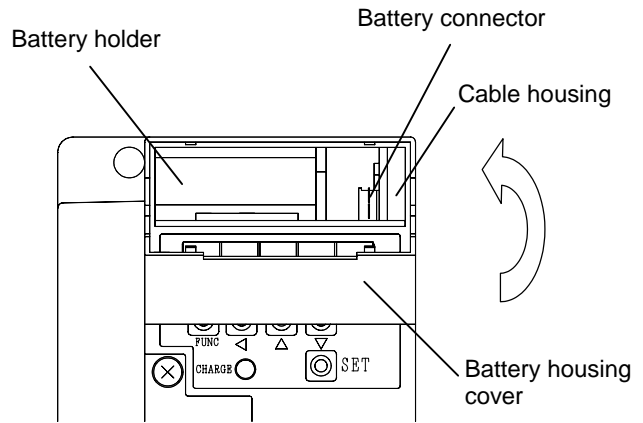

Fig. 2
Insert the core of the cable in the opening of the control power connector (TM2) (Fig. 2) by using one of the methods shown in Fig. 3 and Fig. 4. Make sure that the cable cannot be pulled out.
- 5- Mount the battery housing cover on the front cover by pushing the upper part of the battery housing cover (Fig. 2) with a finger until a click is produced.